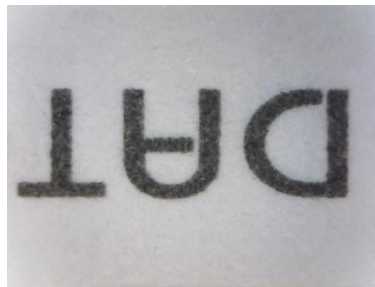

Fig.3-23 Video image becomes horizontal flip
- ⊕ Vertical and horizontal Flip “” : The video image will do horizontal and vertical flip shown in Fig.3-23.